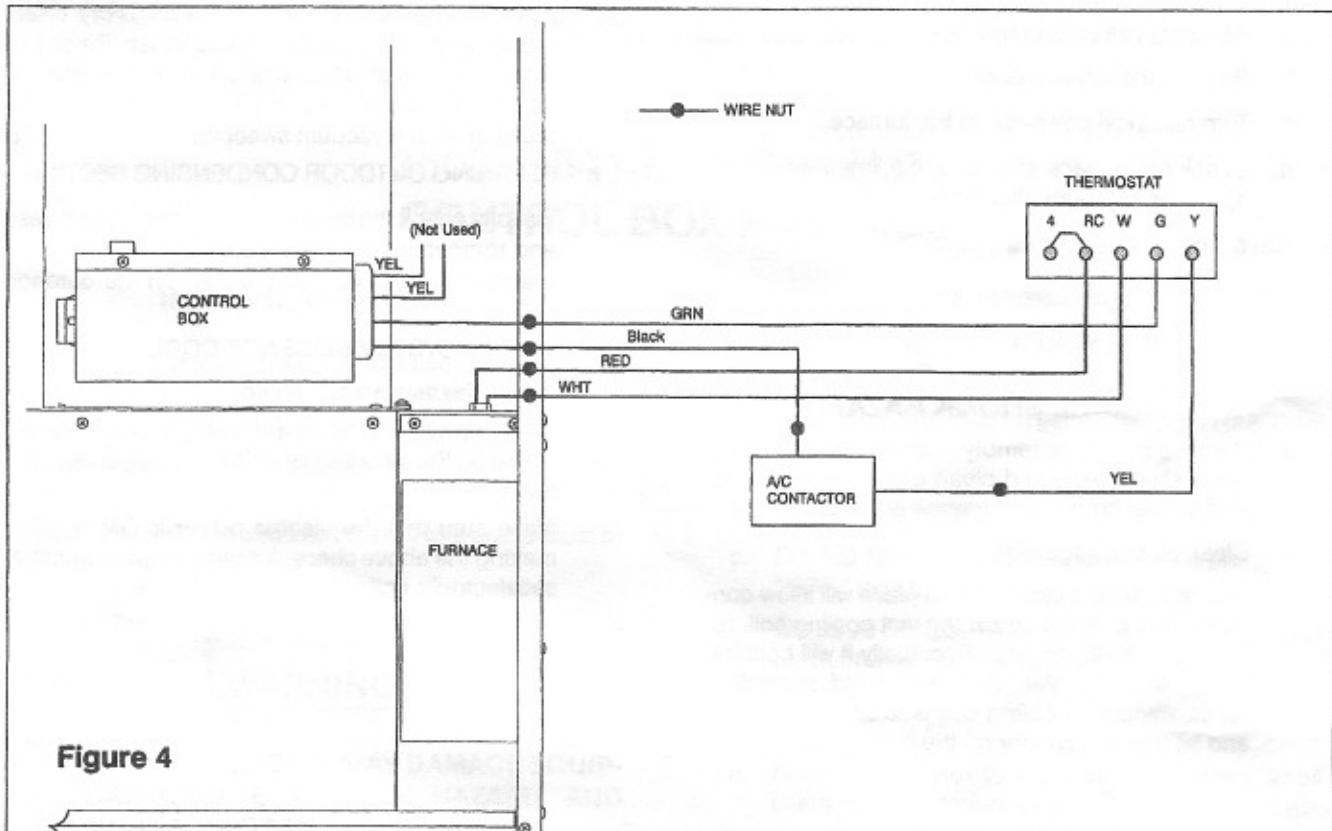

Figure 4
a. Attach the 4 low voltage wires extending from the control box as follows (Refer to Figure 4):